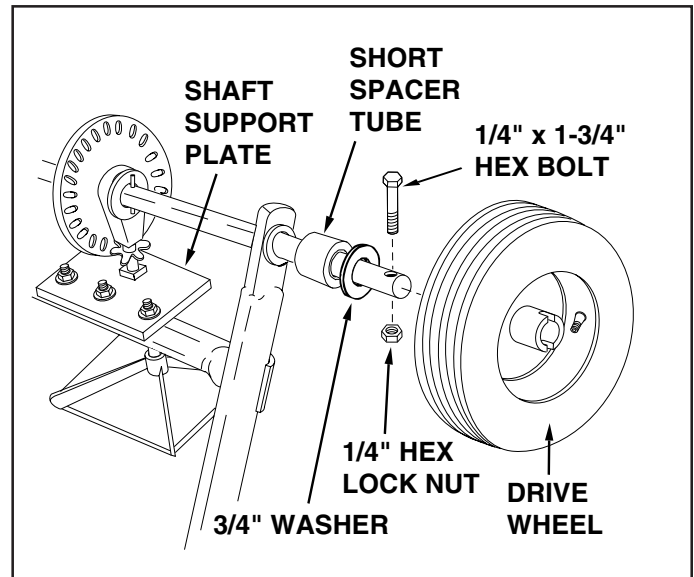

FIGURE 2
5. Place the short spacer tube and a 3/4" washer onto the end of the axle that has the large drilled hole (left hand side). See figure 2.
6. Place the drive wheel onto the axle. The notched hub and the air valve should face to the outside. See figure 2.
7. Fasten the wheel to the axle using a 1/4" x 1-3/4" hex bolt and a 1/4" hex lock nut. See figure 2.